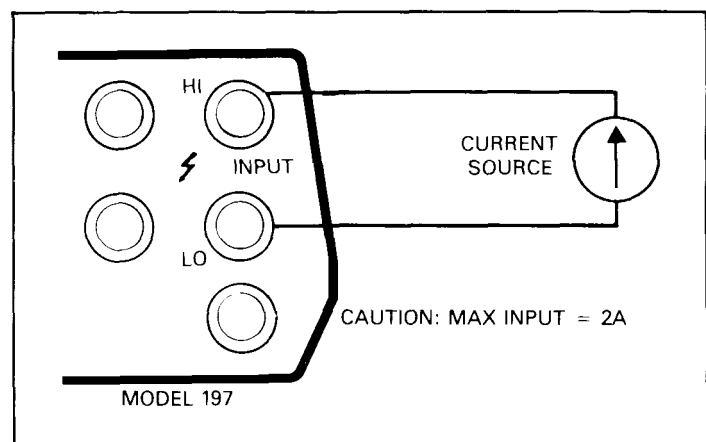

Figure 2-8. Current Measurements up to 2000mA
- D. Connect the test leads to the current source as shown in Figure 2-8. If an overrange indication is displayed, select a higher range until a normal reading is shown. Use the lowest possible range to obtain the best resolution.